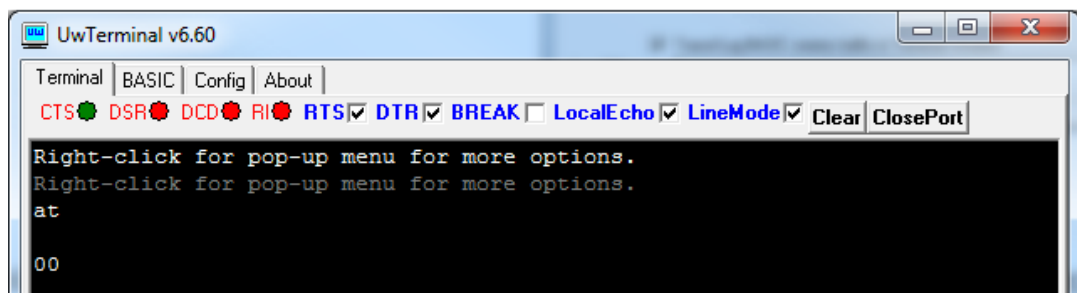

Figure 11: COMMS OK
3. Confirm you can communicate with the development board by typing **at** followed by a return. The module responds with **00** (Figure 11).